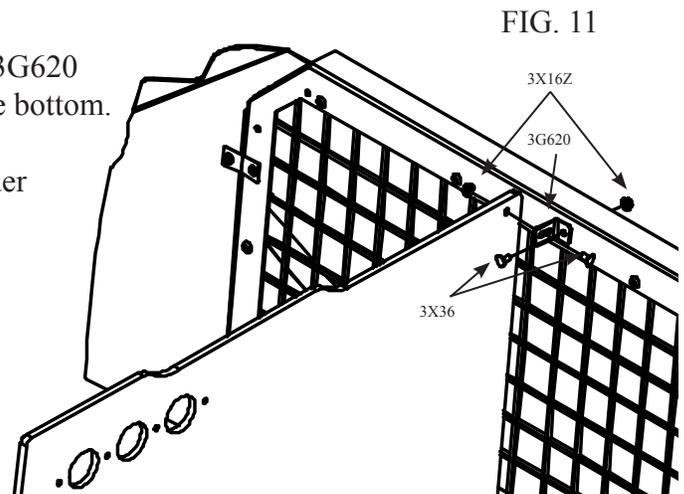

FIG. 11
- A. Attach the 3G620 Bracket to the front of the Barrier at the top center of the window so the flat side of the bracket is toward the passenger side so the divider will mount flat against it. It may be necessary to drill a hole in the barrier in this location. (See Fig. 11)